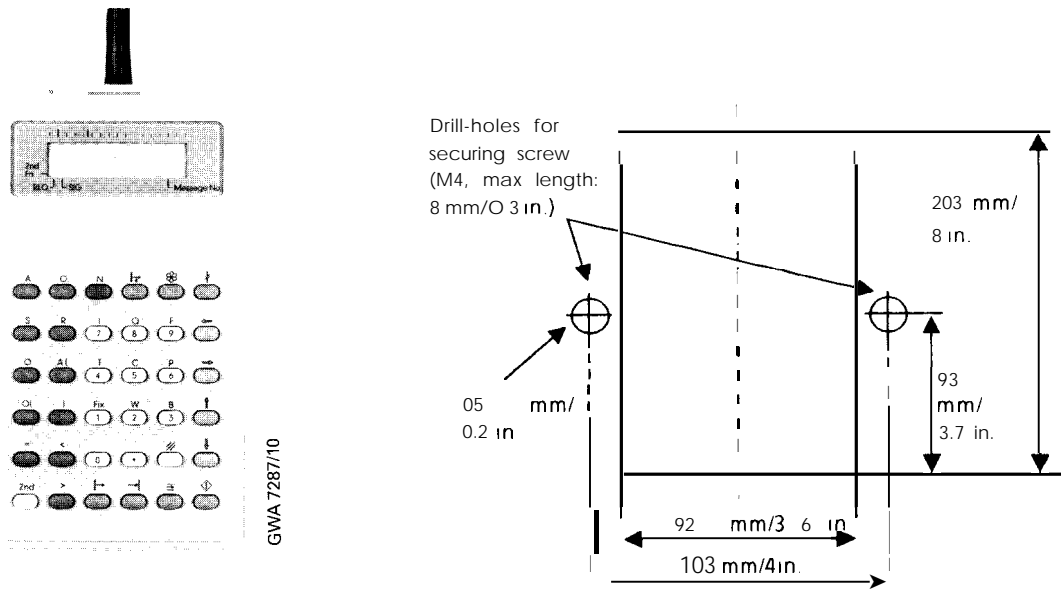

Figure 3-3. Cutout Dimensions for Mounting in a Control Panel
- Mounting in a control panel (→ Figure 3-3.)